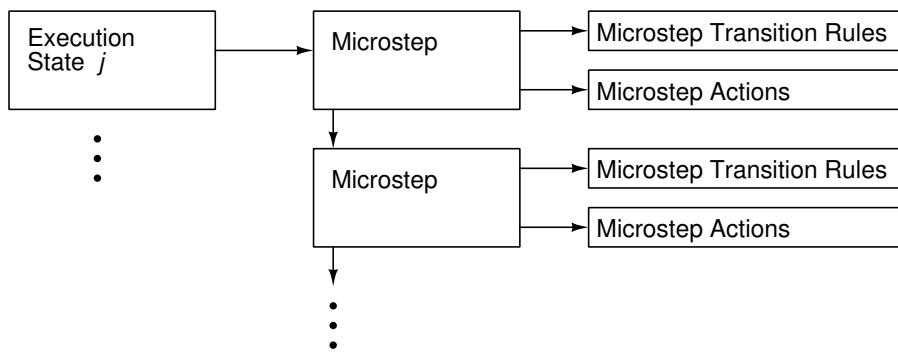

Figure 15: LC3\_Visualization LC-3 state-machine. Each execution state in the simulated state machine has an associated Execution State Record.
- Each execution state is associated with a linked list of microsteps, each of which has lists of Transition Rules and Actions, as seen in figure 15. An example Transition Rule is :
• The state-machine model of figure 15 is built from a configuration file, and so can be revised easily. Configurations for various processors can be managed by selecting the configuration file.